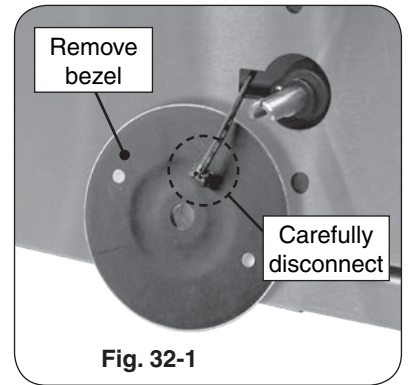

Fig. 32-1
4. Slowly lift away the lighted bezels to clear the valve stems, and carefully disconnect the wires found on the back of the bezels (use your fingernail). See Fig. 32-1.
7. Disconnect the main wire harness connection (Fig. 32-1, A) and the igniter wires (Fig. 32-1, B). It is recommended to temporarily label the wires for reference when reconnecting. See Fig. 32-1. When disconnecting, be sure to pull from the connectors, and not the wires.